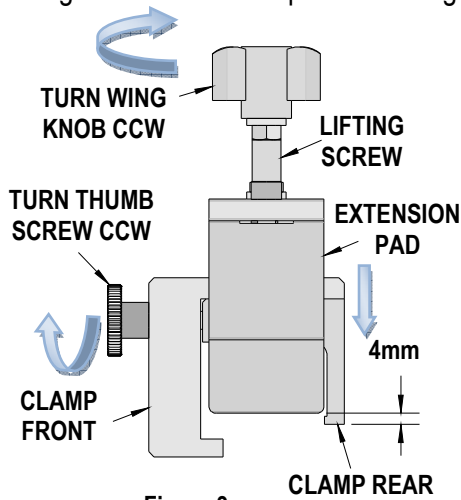

Figure 3
1. Turn the wing knob counter clockwise so the clamp rear and clamp front are approximately 4mm below the bottom edge of the extension pads. See Figure 3.